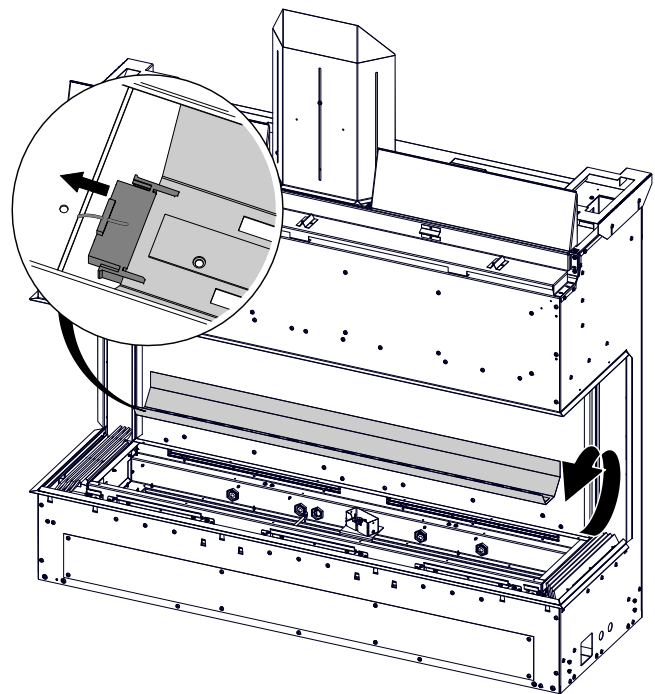

Fig. 3
7. Disconnect the wires at both ends of the LED sleigh assembly (**Fig. 3**).
8. Remove the LED sleigh assembly by removing the securing screws. Replace and reinstall components (**Fig. 3**).